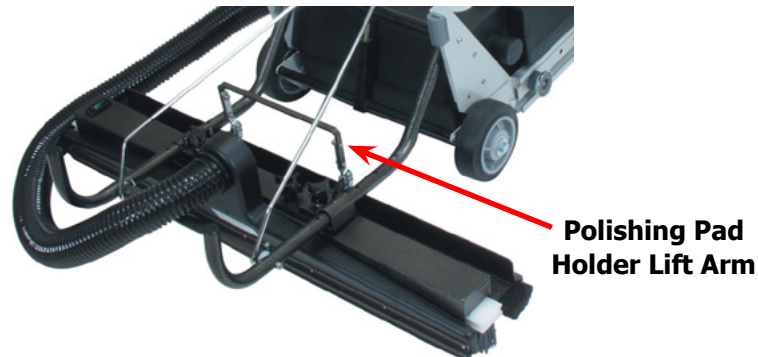

Figure 9. Set Lift Arm in Up Position
1. To seat the cleaning brush in the grooves, set the polishing pad holder lift arm in the "up" position (see Figure 9).
Pull the pad holder lift arm back toward the machine and down (see Figure 9). This lowers the polishing pad to the tread surface and simultaneously lifts the brush bristles from the grooves.